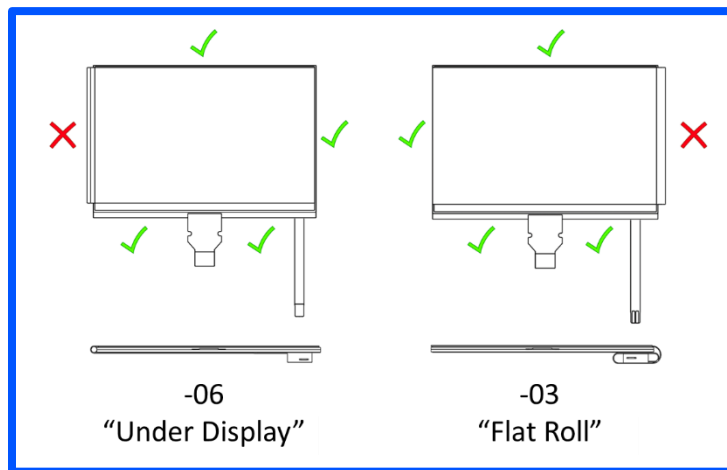

Figure 7. Identification of edges to be used for handling and mounting Azumo LCD 2.0 in final product.
- When handling the product, grasp onto the LCD edges that are not covered by the FLP (see Fig. 7).